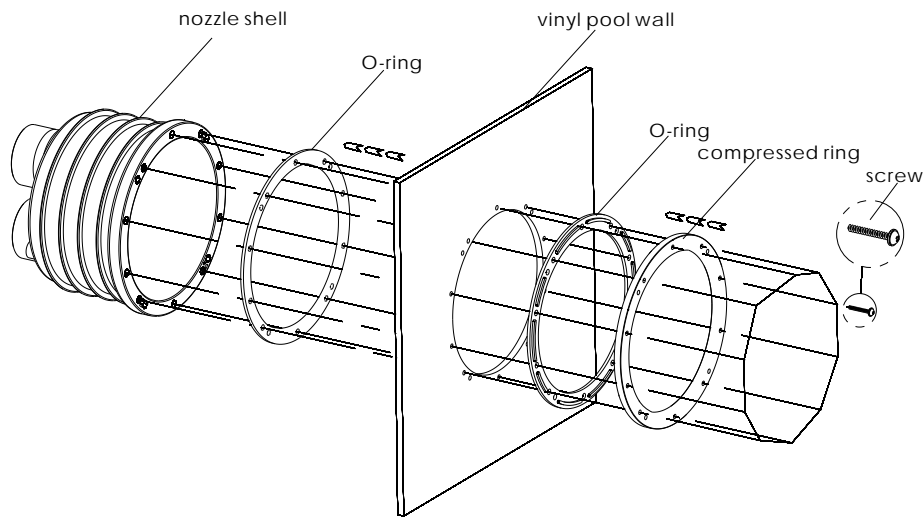

Figure 4
- b) Install the outer shell, plastic ring, in the correct order on the pool shell wall. (Figure 4)